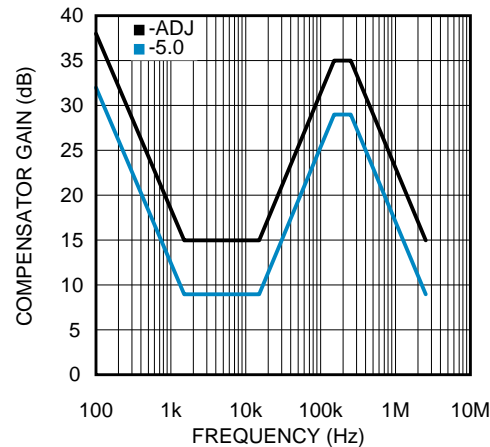

Figure 14. Compensator Gain
The complete transfer function for the regulator loop is found by combining the compensation and power stage transfer functions. The LM22678 has internal type III loop compensation, as detailed in Figure 14. This is the approximate "straight line" function from the FB pin to the input of the PWM modulator. The power stage transfer function consists of a D.C. gain and a second order pole created by the inductor and output capacitor(s). Due to the input voltage feed forward employed in the LM22678, the power stage D.C. gain is fixed at 20dB. The second order pole is characterized by its resonant frequency and its quality factor (Q). For a first pass design, the product of inductance and output capacitance should conform to the following equation: